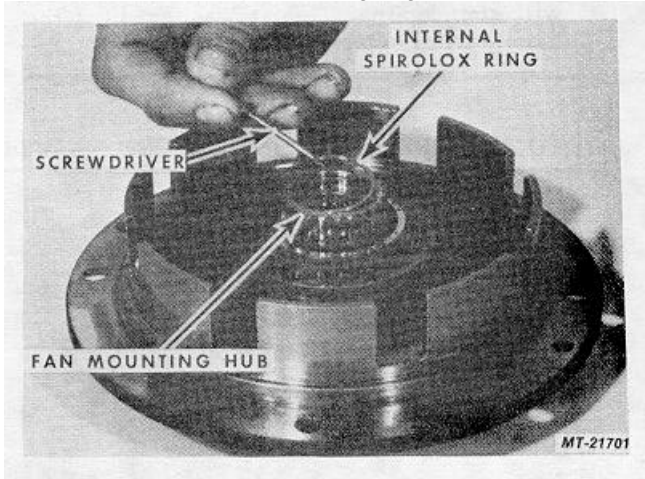

Fig. 9
6. Remove Internal Spirolox Ring, Fig. 9.